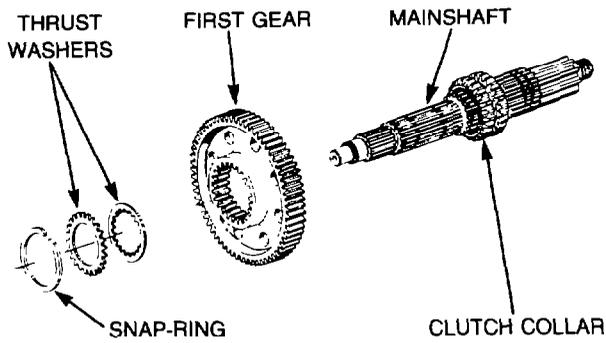

Figure 175 — Installing First Gear
- e. Lubricate the first gear thrust washers with transmission oil, then assemble the thrust washers into the gear, together with a new snap-ring. Ensure that the externally splined thrust washer is positioned nearest the snap-ring, then install the gear and thrust washer assembly onto the mainshaft, and check that the internally toothed thrust washer butts against the clutch collar locating circlip (see Fig. 175).